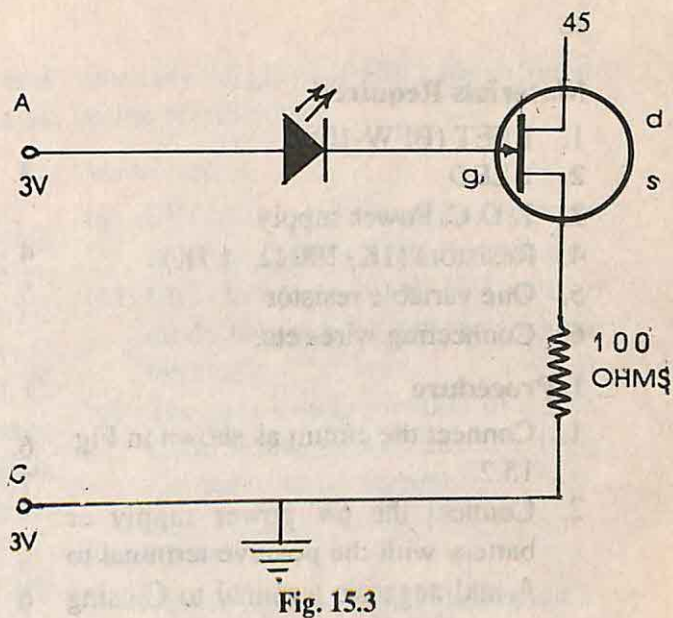

Fig. 15.3
1. Connect the circuit as shown in Fig. 15.3.